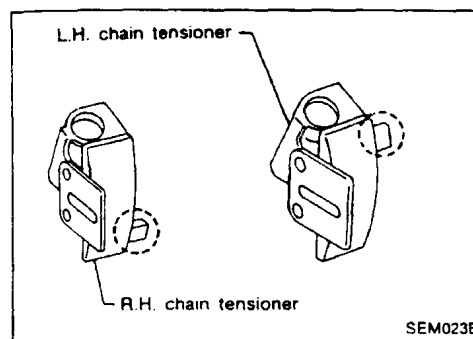

Figure 12
7. If the tensioners were removed, install them at this time. (Figure 12)